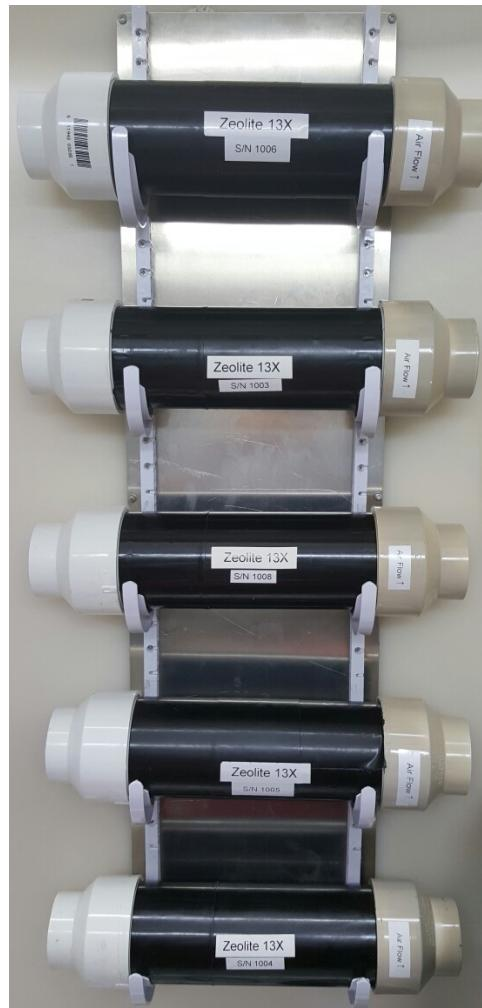

Figure 6: Zeolite Canister Rack
- 5.1 Remove QTY 1 clean Zeolite 5A Filter from Zeolite Rack located on Airlock Module Wall C. (see Figure 6)
- 5.3 Remove QTY 1 clean Zeolite 13X Filter from Zeolite Rack located on Airlock Module Wall C. (see Figure 6)